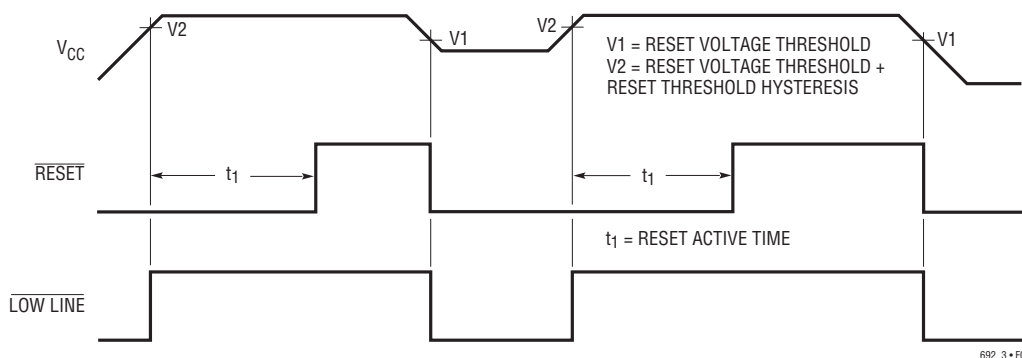

Figure 1. Reset Active Time
**$\overline{LOW LINE}$ :** Logic Output from Comparator C1.  $\overline{LOW LINE}$  indicates a low line condition at the  $V_{CC}$  input. When  $V_{CC}$  falls below the reset voltage threshold (4.40V typically),  $\overline{LOW LINE}$  goes low. As soon as  $V_{CC}$  rises above the reset voltage threshold,  $\overline{LOW LINE}$  returns high (see Figure 1).  $\overline{LOW LINE}$  goes low when  $V_{CC}$  drops below  $V_{BATT}$  (see Table 1).
The LTC692/LTC693 use a bandgap voltage reference and a precision voltage comparator C1 to monitor the 5V supply input on  $V_{CC}$  (see Block Diagram). When  $V_{CC}$  falls below the reset voltage threshold, the  $\overline{\text{RESET}}$  output is forced to active low state. The reset voltage threshold accounts for a 10% variation on  $V_{CC}$ , so the  $\overline{\text{RESET}}$  output becomes active low when  $V_{CC}$  falls below 4.50V (4.40V typical). On power-up, the  $\overline{\text{RESET}}$  signal is held active low for a minimum of 140ms after reset voltage threshold is reached to allow the power supply and microprocessor to stabilize. The reset active time is adjustable on the LTC693. On power down, the  $\overline{\text{RESET}}$  signal remains active low even with  $V_{CC}$  as low as 1V. This capability helps hold the microprocessor in stable shutdown condition. Figure 1 shows the timing diagram of the  $\overline{\text{RESET}}$  signal.